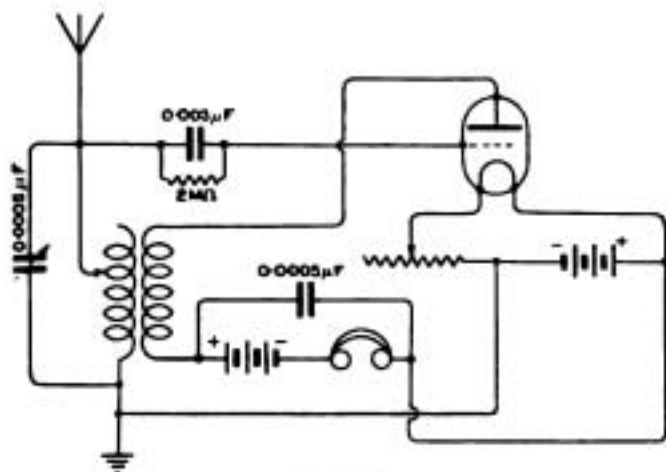

Fig. 9.
(2) and (3) Arrange the circuit as in the diagram, Fig. 9. Make the A.T.I. 5" in diameter by 8" long, wound with No. 24. Reaction coil may be 4" in diameter and 6" long, wound with No. 28. The A.T.I. should have a few tappings, but there is no need for tappings on the reaction coil in this case.
E.P.C. (Wimbledon).—(1) The type of circuit you suggest is not a possible one, owing to the fact that you cannot use capacity reaction on a single valve, and your scheme shows only one valve available for reaction purposes. You will have to adopt the normal arrangement of inductive reaction on the first valve, followed by crystal